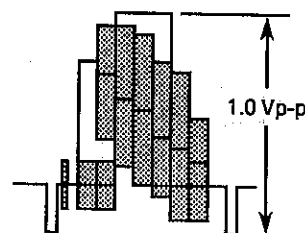

Figure 2-5.
2. Play the colour bar portion of the alignment tape and adjust R201 so that the signal amplitude is $1.0V_{p-p}$ as shown in Figure 2-5.